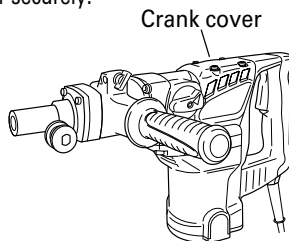

Fig. 18
- (1) Remove the crank cover and wipe off the grease inside. (Fig. 18)
- (2) Apply 2.0 oz (60 g) of metabo HPT Electric Hammer Grease A (optional accessory, contained in tube) to the crank case.
- (3) After replenishing the grease, install the crank cover securely.